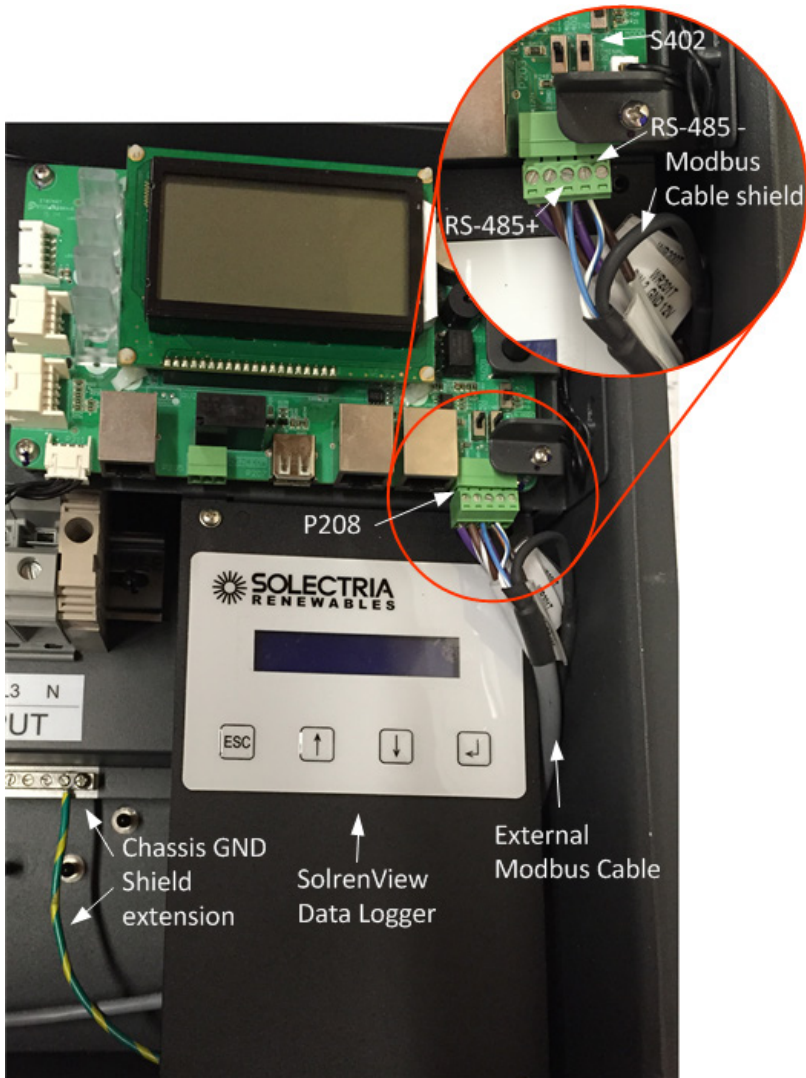

Figure 2.41 - SolrenView Data Logger Installed Inside the PVI 36TL Wiring Box.
5. Extend the Modbus cable shield with additional wire so that it can reach to the Chassis GND terminal block as shown in Figure 2.41. The wire should be soldered to the cable shield to ensure solid and reliable connection. The shield connection should be covered with a heat shrink tubing to prevent any shorts to other components inside the inverter. The wire should be kept as short as possible to minimize any noise pickup.
6. Connect the external Modbus (RS-485) cable to the green Phoenix connector (P208), ensuring correct polarity and using a matching twisted pair in the Modbus cable. See Figure 2.41. Care must be taken not to disconnect the Modbus wires coming from the SolrenView logger.